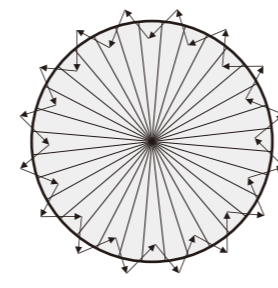

FIG. 19
- 4.4.4 Walk from outside across to the detection pattern until red LED and load turn on for approx. 2sec, then turn off, the next trigger should be 2sec interval (See FIG. 19).